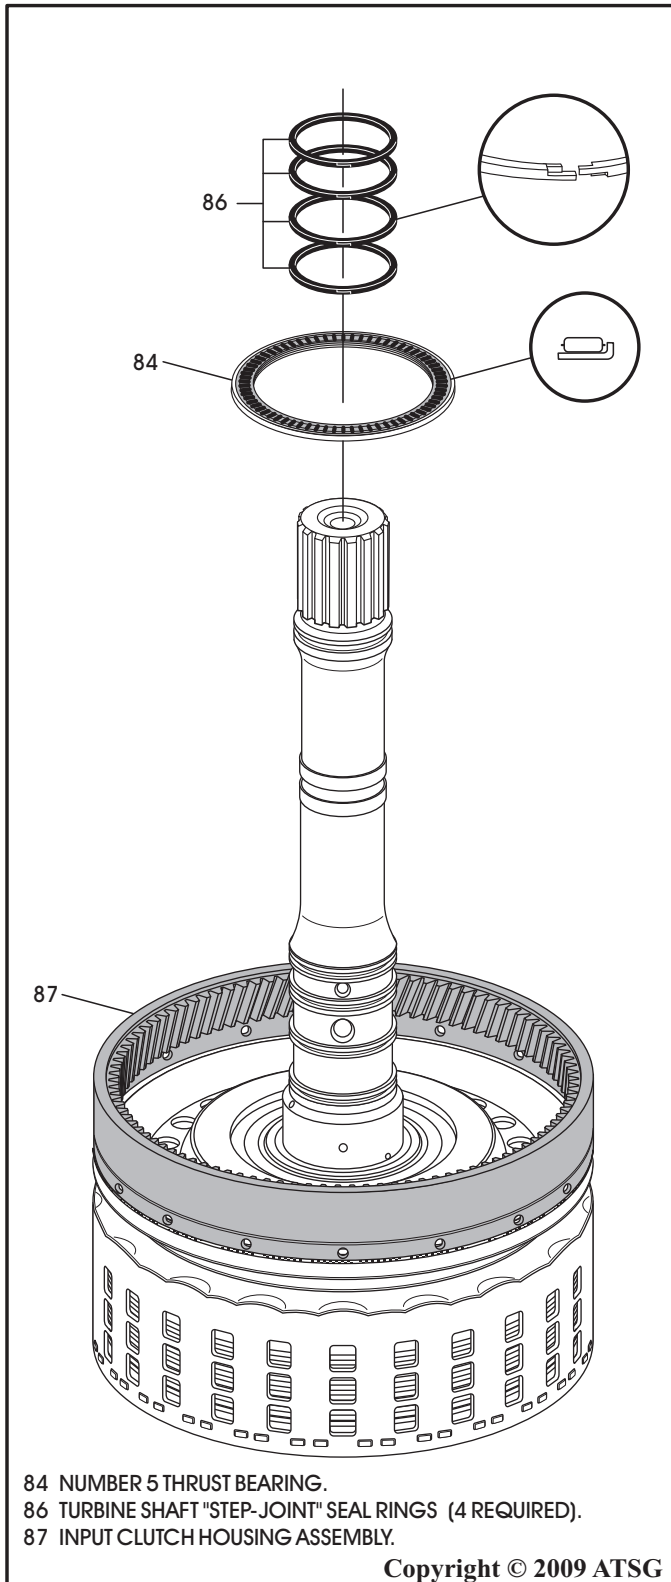

Figure 102
15. Install the number 5 thrust bearing, as shown in Figure 102, and retain with a small amount of Trans-Jel®.
16. Install four new "step-joint" sealing rings into the grooves on the input shaft, as shown in Figure 102.
17. Ensure they rotate freely in their grooves and the "step-joint" is properly engaged, as shown in Figure 102.